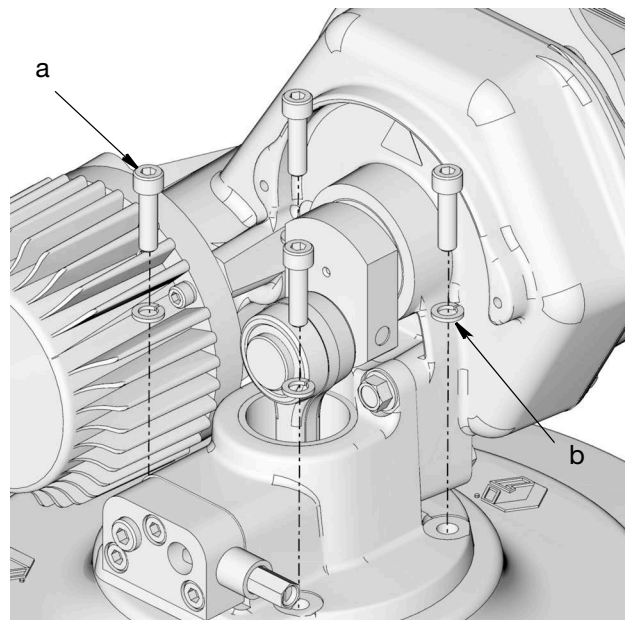

FIG. 20
6. Remove the screws (a) and washers (b) holding the pump to the cover and remove the pump from the cover (FIG. 20). Place the pump on a workbench, or table top, protected with a drop cloth.